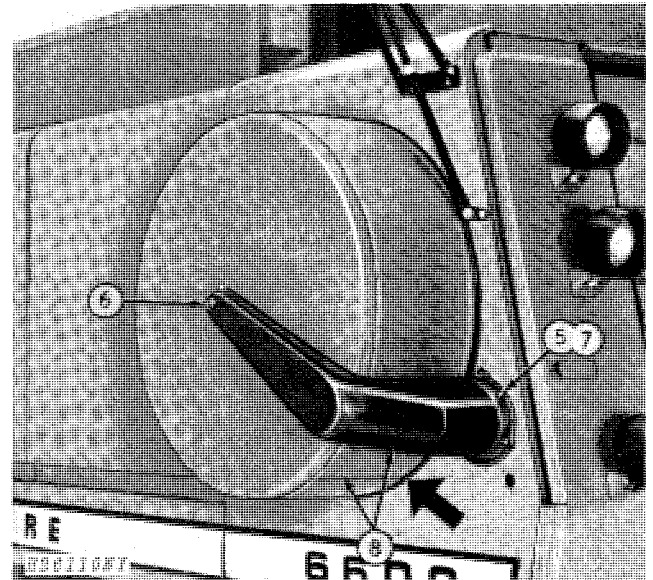

Fig. 26-Installing Vacuum Duct
5. Remove the five 1/4 x 1-inch self-tapping screws attaching duct mounting to screen door (Fig. 26). Save hardware.
6. Attach vacuum duct to drive shaft with the 3/8 x 1-1/4-inch black cap screw, flat washer, and lock washer provided (Fig. 26). Just start cap screw into shaft a few threads at this time.
7. Position vacuum duct over duct mounting and attach to screen door with the five 1/4 x 1-inch self-tapping screws removed in Step 5 (Fig. 26). Do not tighten screws at this time.
8. The bottom edge of vacuum duct must just clear the screen weld seam as the screen rotates (Fig. 26). Slide duct in or out to obtain this clearance. Tighten all hardware.